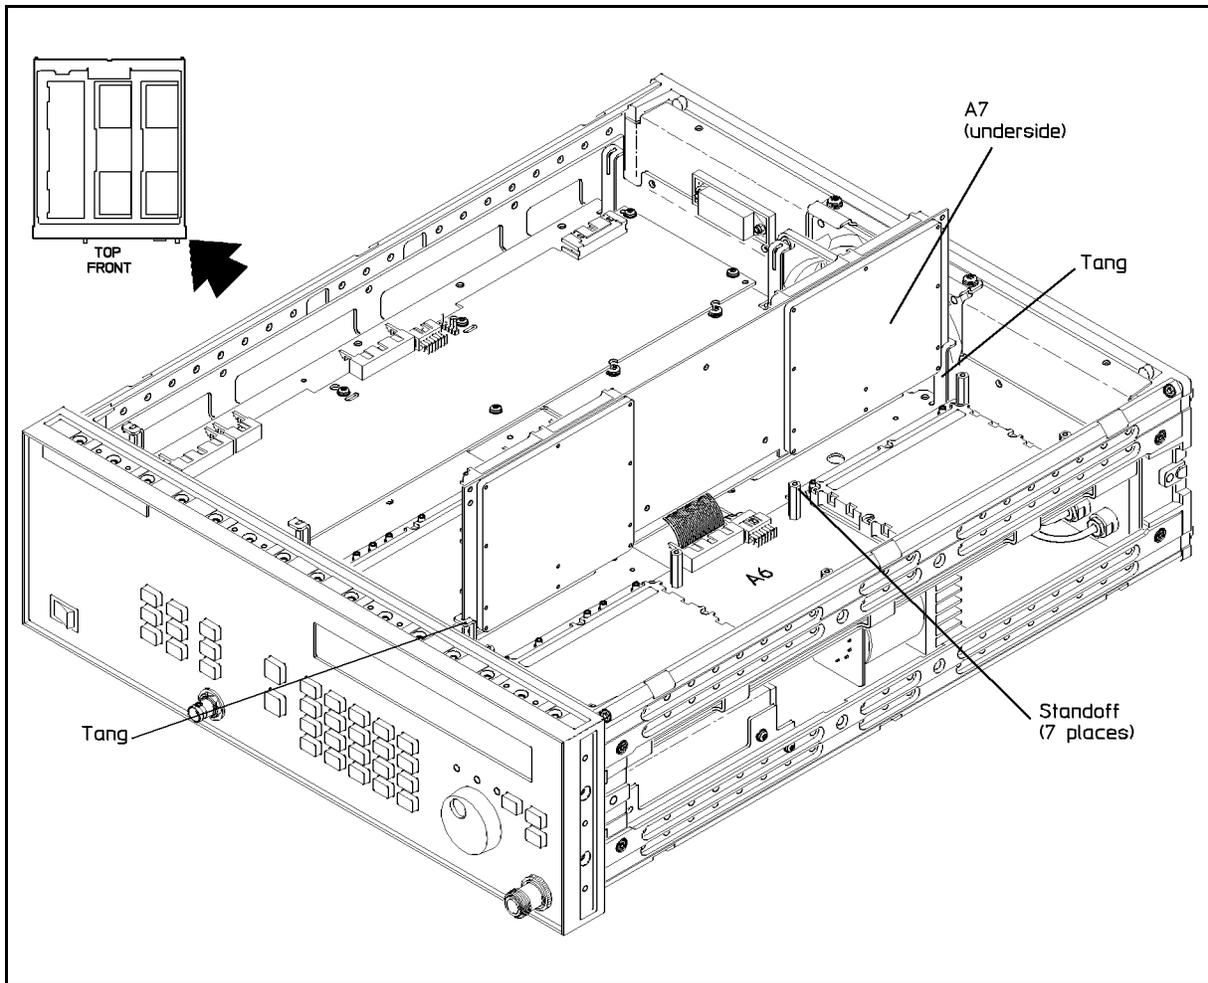

Figure 5-23. LO Synthesizer and Reference Board Service Position
4. Position the YO Loop and Offset Synthesizer board assembly, A7, in the tangs as shown in Figure 5-23.